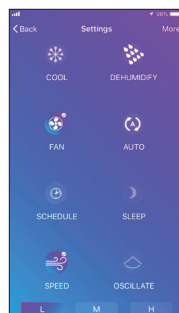

Fig. 3
Step 5. After connecting successfully, the app can be used to set cooling schedules, change cooling modes and more (fig. 3).